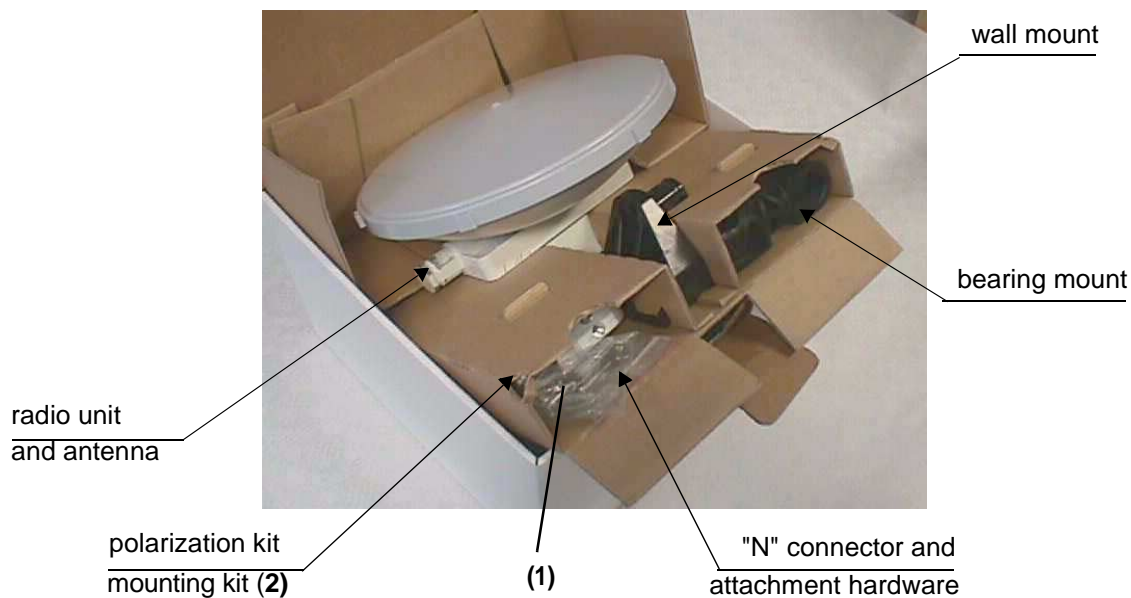

Figure 4 – Unpacking the RT unit with integrated antenna
1. Open the cover flap of the package lid (*Figure 4 – Unpacking the RT unit with integrated antenna*).